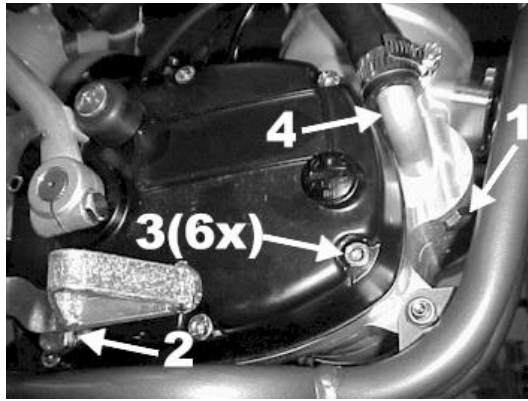

Figure 21
5. Drain engine transmission oil by removing drain screw using a 13mm- hex wrench. (item 2 in the figure below).
6. Remove kick-starter cover using a 5mm hex key. (item 3 six places)
8. Unscrew water elbow fitting. (Figure 21)